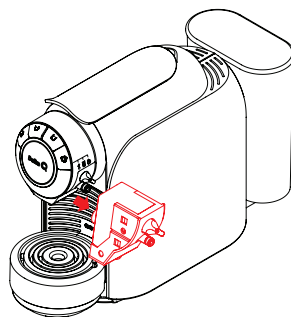

Fig. 32: Detach the milk system.
- Then detach the Milk system by pulling out the connector (see **Fig. 32**).